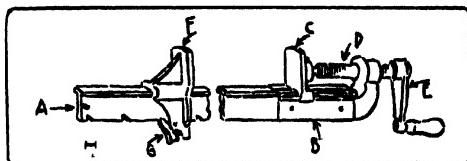

Fig. 176. Steel-Bar Carpenter's Clamp. a. Steel Bar. b. Frame.
*Clamps* are made of both wood and iron, the most satisfactory for speed, strength, and durability are steel-bar carpenter clamps, Fig. 176. They vary in length from  $1\frac{1}{2}$  ft. to 8 ft. The separate parts are the steel bar A, the cast-iron frame B, the tip C